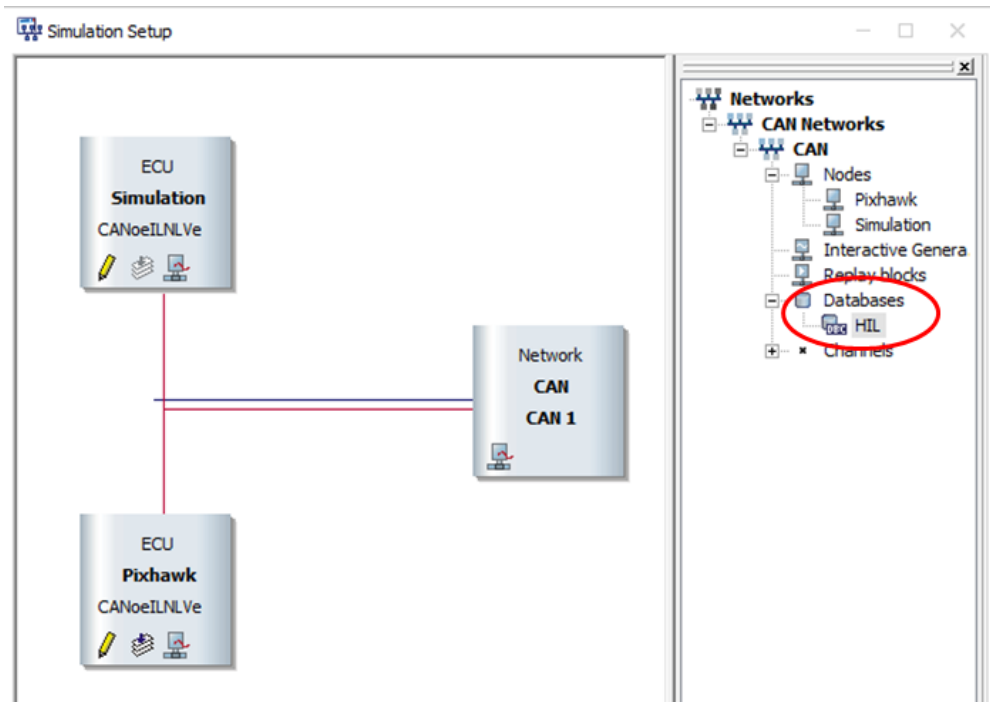
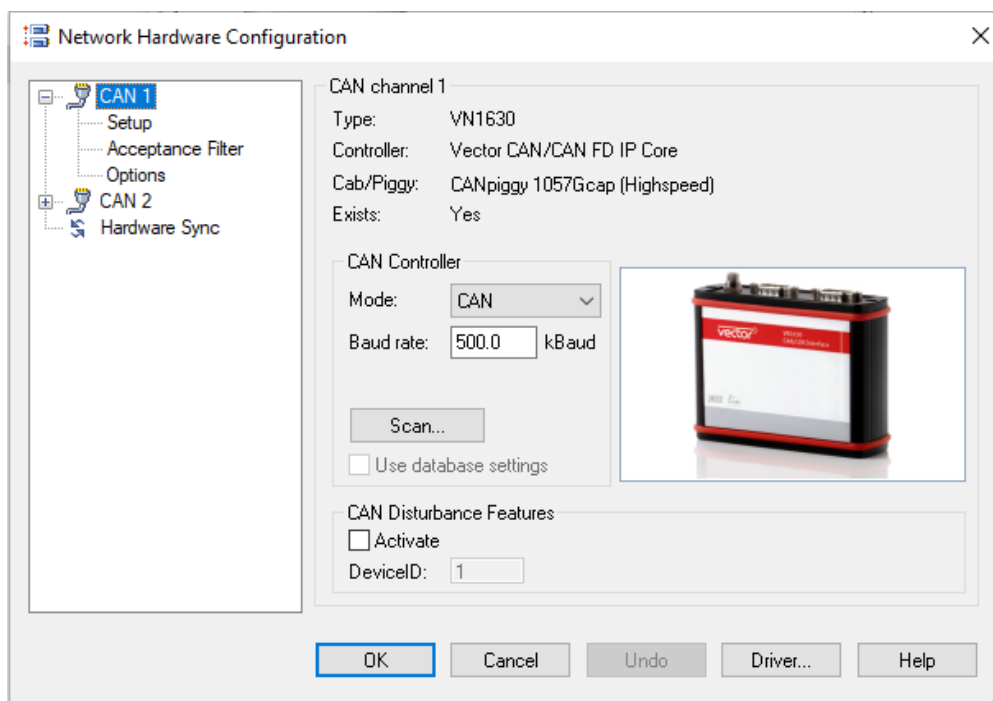

Figure 17: CANoe Simulation Setup Window.
Figure 18: CANoe Network Hardware Configuration Window.
2. **Simulation Setup:** You can adjust the parameters of the CAN bus and also the participants on the bus in this setup (see a detailed view in Fig. 17). The participants are represented as nodes, with the Simulation node being the simulation host and the Pixhawk node being the aircraft. To change the bus setting, double click the box with the Network/CAN/CAN 1 node in the setup. The Network Hardware Configuration Window will open (see Fig. 18).
⁸Sampling point and self acknowledgment option can be accessed though selecting the Setup submenu in the Network Hardware Configuration window (see Fig. 18).